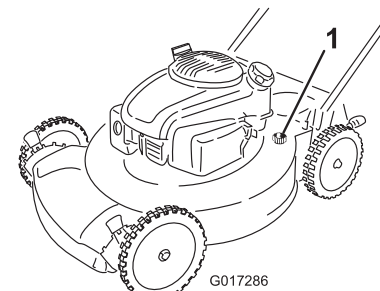

Figure 25
4. Attach a garden hose that is connected to a water supply to the washout port on the machine (Figure 25).